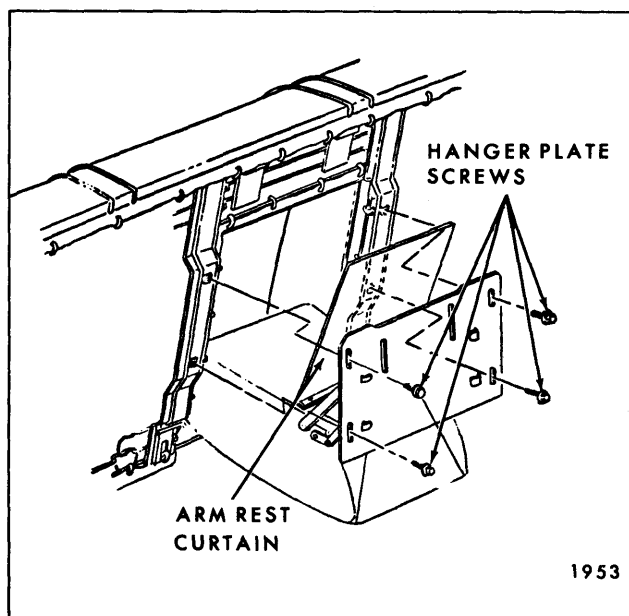

Fig. 15-50—Rear Seat Back Arm Rest and Hanger Plate
2. On back side of rear seat back, remove four screws securing arm rest hanger plate to seat back supports; then, carefully remove arm rest and hanger plate assembly from seat back (Fig. 15-50).